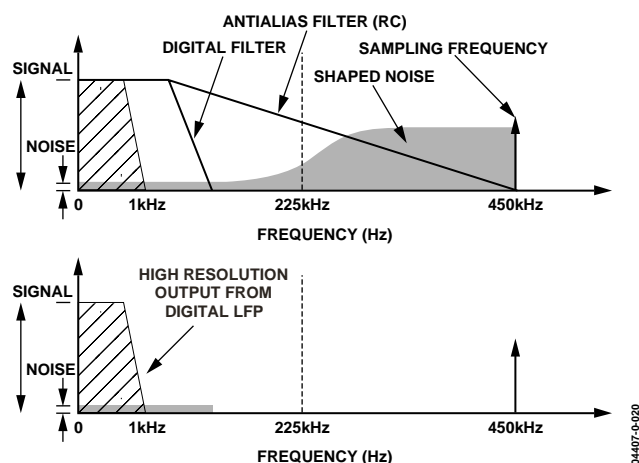
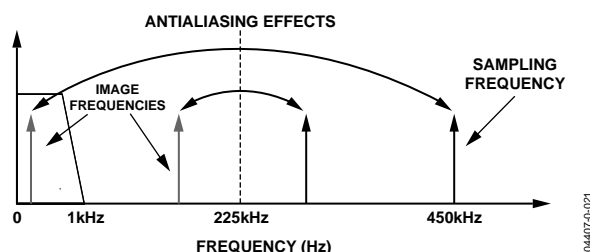

Figure 18. Noise Reduction Due to Oversampling and Noise Shaping in the Analog Modulator
Figure 19. ADC and Signal Processing in Current Channel or Voltage Channel
The  $\Sigma$ - $\Delta$  converter uses two techniques to achieve high resolution from what is essentially a 1-bit conversion technique. The first is oversampling, which means that the signal is sampled at a rate (frequency) that is many times higher than the bandwidth of interest. For example, the sampling rate in the ADE7761 is CLKIN (450 kHz) and the band of interest is 40 Hz to 1 kHz. Oversampling has the effect of spreading the quantization noise (noise due to sampling) over a wider bandwidth. With the noise spread more thinly over a wider bandwidth, the quantization noise in the band of interest is lowered (see Figure 18).
However, oversampling alone is not an efficient enough method to improve the signal-to-noise ratio (SNR) in the band of interest. For example, an oversampling ratio of 4 is required just to increase the SNR by only 6 dB (1 bit). To keep the oversampling ratio at a reasonable level, it is possible to shape the quantization noise so that the majority of the noise lies at the higher frequencies. This is what happens in the  $\Sigma$ - $\Delta$  modulator; the noise is shaped by the integrator, which has a high-pass type response for the quantization noise. The result is that most of the noise is at the higher frequencies where it can be removed by the digital low-pass filter. This noise shaping is also shown in Figure 18.
Figure 18 also shows an analog low-pass filter (RC) on input to the modulator. This filter is present to prevent aliasing. Aliasing is an artifact of all sampled systems, which means that frequency components in the input signal to the ADC that are higher than half the sampling rate of the ADC appear in the sampled signal frequency below half the sampling rate. Figure 19 illustrates the effect.
In Figure 19, frequency components (arrows shown in black) above half the sampling frequency (also known as the Nyquist frequency), that is, 225 kHz, are imaged or folded back down below 225 kHz (arrows shown in gray). This happens with all ADCs no matter what the architecture. In the example shown, only frequencies near the sampling frequency (450 kHz) move into the band of interest for metering (40 Hz to 1 kHz). This fact allows the use of a very simple low-pass filter to attenuate these frequencies (near 250 kHz) and thereby prevent distortion in the band of interest. A simple RC filter (single pole) with a corner frequency of 10 kHz produces an attenuation of approximately 33 dB at 450 kHz (see Figure 19). This is sufficient to eliminate the effects of aliasing.